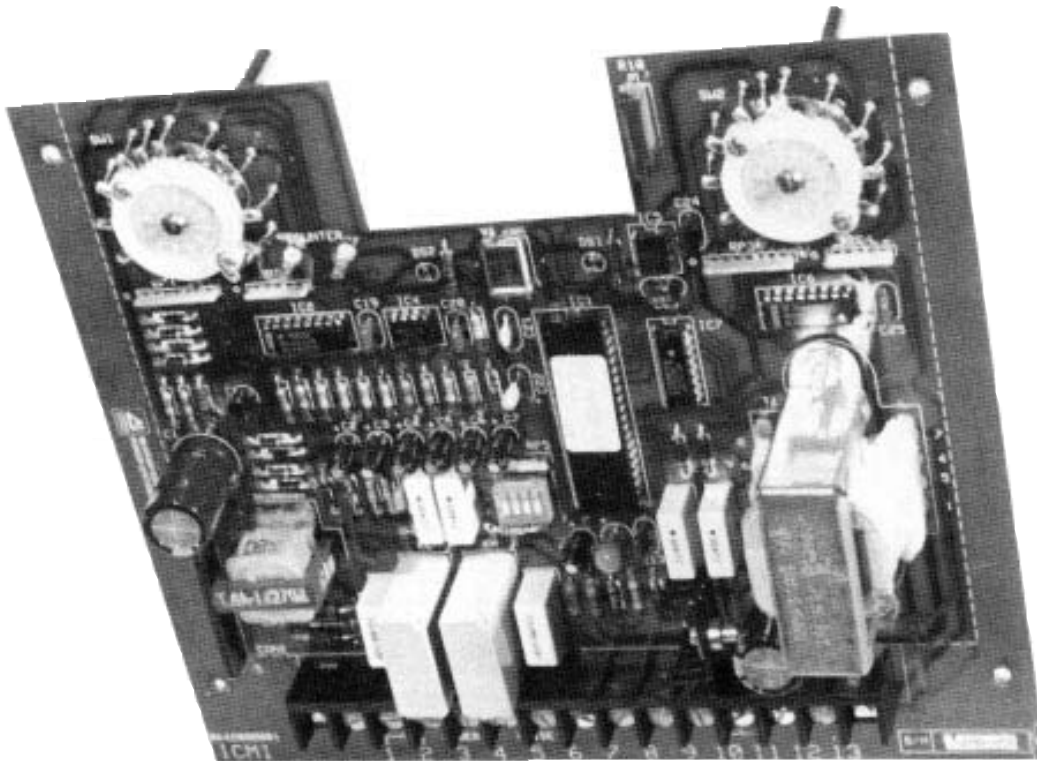

Figure 4-4.
8. Swing the top of the board away from the front panel until the control shafts are clear. Lift the board free of the slots in the side brackets (Figure 4-4).